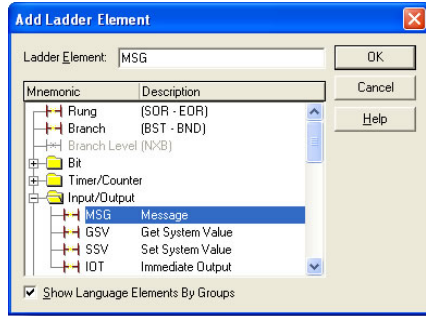

Figure 97: Adding a MSG Instruction
- d) Select the "MSG" instruction in the Input/Output folder. Refer to Figure 97.